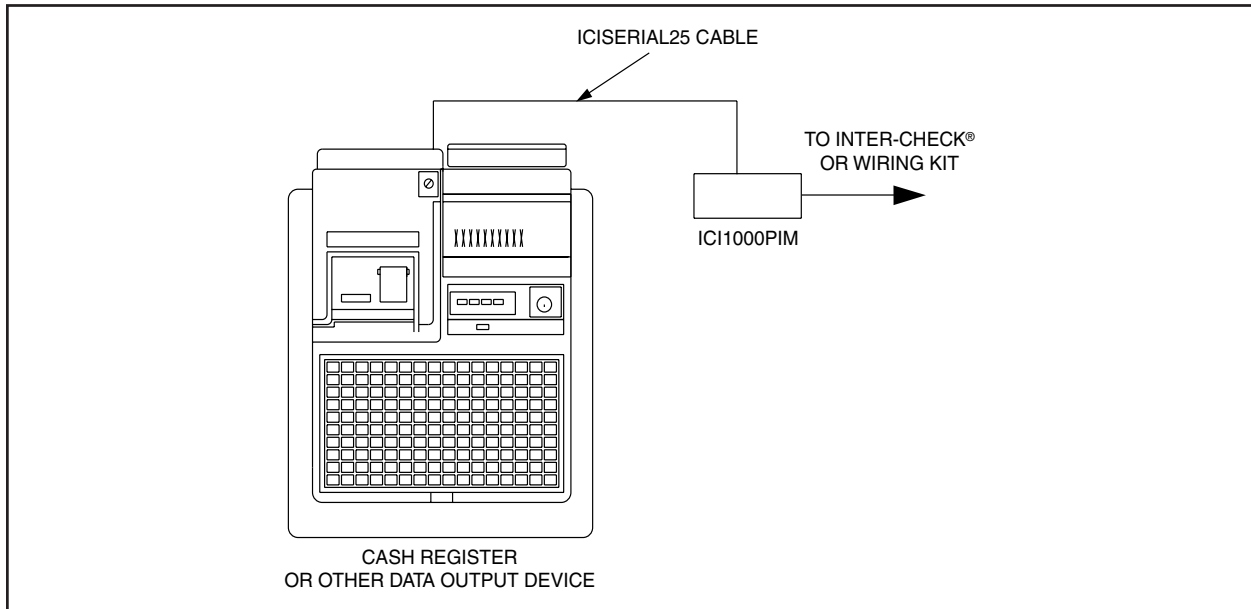

Figure 2. Interface Cable Connected to Data Output Device
3. Plug the DB25 connector into the cash register or other device. Refer to Figures 2 and 3. For Ruby Verifone plug the connector into the printer, not the register.